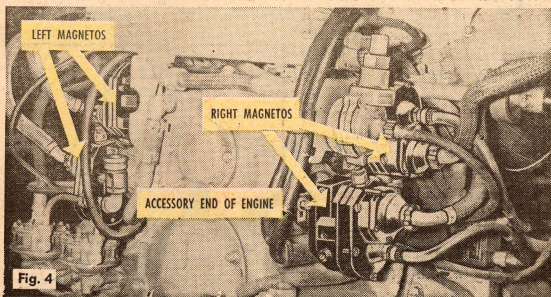

Fig. 4
4. The Sarge knows that #1 right piston must be on its compression stroke when timing the right magnetos, so he turns the input-wrench clockwise until the gage shows pressure in the cylinder, and continues turning slowly until ^{V-ENG}_{IR IGN} appears on the flywheel opposite the timing pointer. (Madison says, "Leave the flywheel pointer on this marking until both right magnetos are timed and remember the right magnetos are on your **right** when **facing** the accessory end of the engine") (Fig. 4).